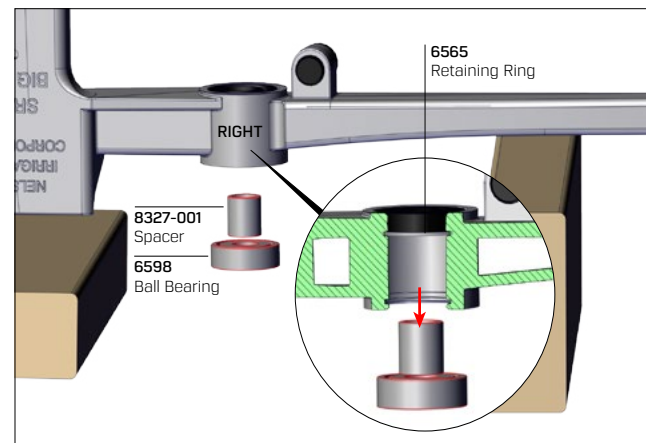
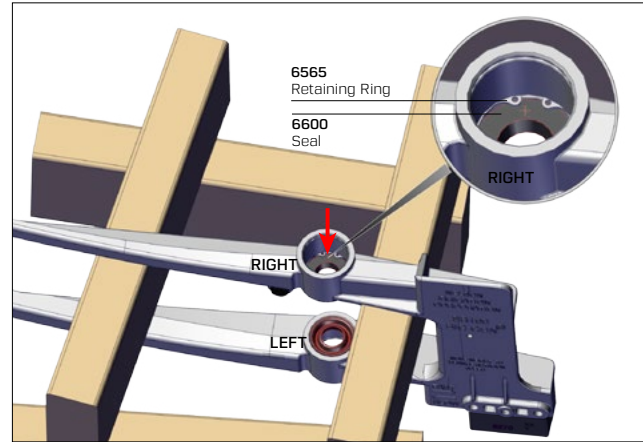

Fig. 8.
Fig. 9.
- B. In the RIGHT drive arm hub, push out the **#8327-001** spacer and **#6598** ball bearing in the direction shown in Fig. 8. See also Fig. 9 and caution on following page.
- C. Support drive arm using wood blocks as shown in Fig. 9. Push **#6600** seal out of hub with screwdriver (or punch) and hammer.
CAUTION: Bore of **RIGHT** drive arm bearing hub contains retaining ring **#6565**. As shown in Fig. 8 and 9, this retaining ring is located between **#6600** seal and **#6598** ball bearing. The seal and bearing must be removed in the correct direction, or else damage to the drive arm hub will result!